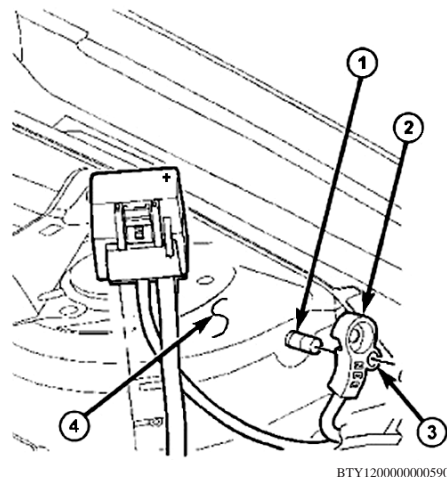

Fig. 1 Battery ground cable remote terminal location
1. Disconnect battery ground cable remote terminal (2) from remote battery post (1), **Fig. 1**.
11. Connect battery ground cable remote terminal (2) from remote battery post (1), **Fig. 1**. **Torque** battery cable clamp nut to 45 inch lbs.